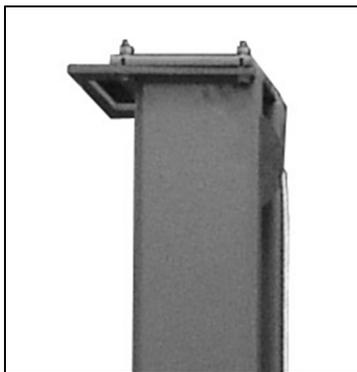
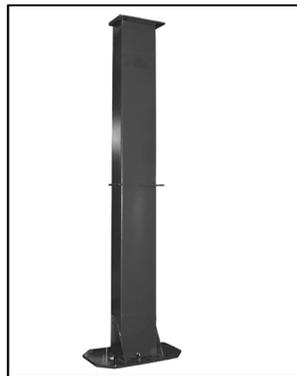

Fig. 5
Fig. 6
2. Ensure Top Cap is pre-installed to the top of the Main column **(Fig. 5)**. Raise the column to a vertical position **(Fig. 6)**.